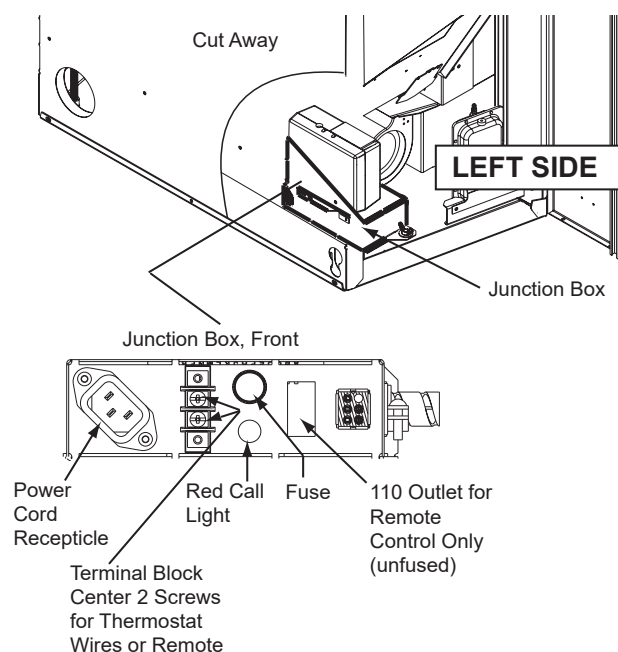

Figure 11.2
3. Locate the heat output control switch on the lower right side of the firebox in front of the right access panel. Set to the HIGH setting and then adjust the thermostat to its highest setting. The red call light will be on which is located on the front of the junction box behind the left access panel. This indicates the thermostat is calling for heat (**Figure 11.2**).